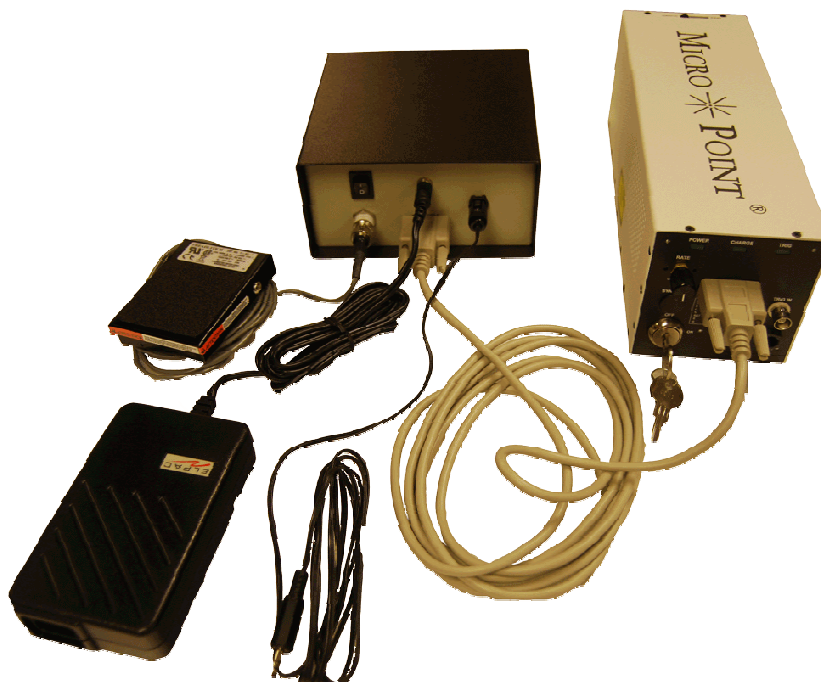

Figure 3-1: Electrical Connections for Laser
- a) Make the electrical connections shown in Figure 3-1.